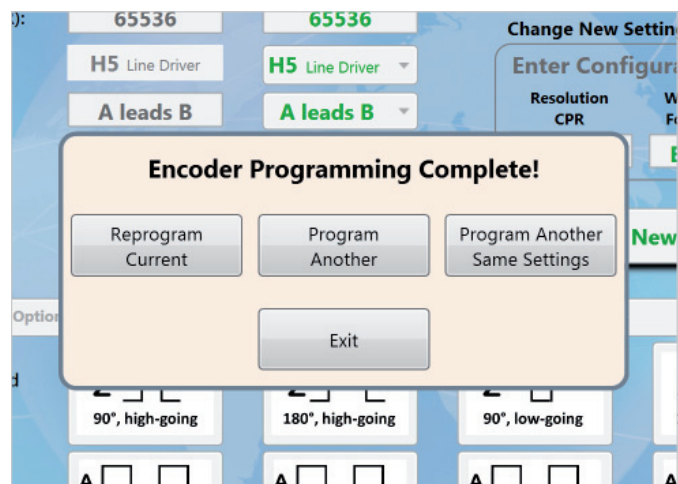

Figure 6
10. When programming is complete, prompt will appear (see Figure 6).
11. Before disconnecting encoder from Interface Cable, choose from the exit options that appear on-screen (see Figure 6).